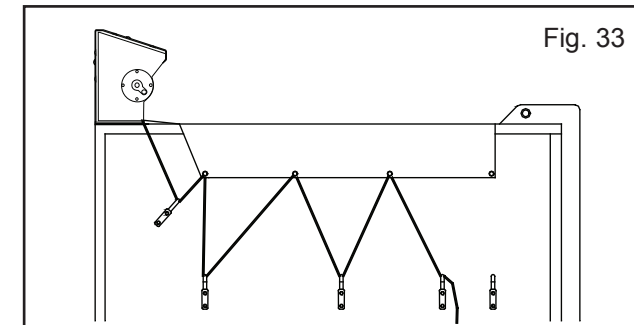

Fig. 33
- Place middle hooks equal distances from grommet (Fig. 33). These hooks should be placed at the same height as the second hook.